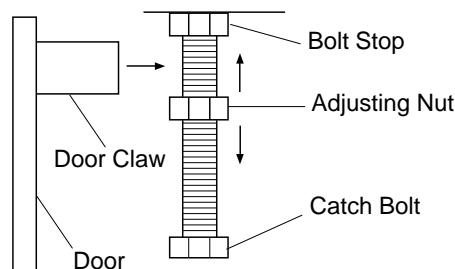

**Figure 10 - Attaching Stove Legs**
8. Fasten each leg to stove with four (4) M8 x 1.25 - 20mm bolts. Use a flat washer and lock washer with each bolt. Tighten bolts into threaded holes on stove body (see Figure 9 and Figure 10 on page 6). Use an adjustable wrench or a 12mm socket.